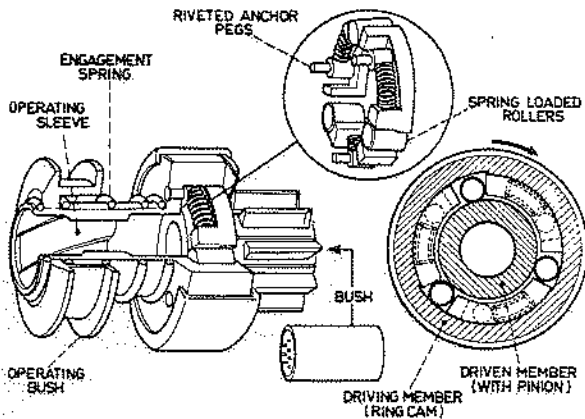

Fig. 3 - Starter Drive Assembly
(8) In the event of the drive remaining in mesh with the flywheel after the engine has run up to speed, the starting motor armature is protected from over-speeding by the roller clutch assembly (Fig. 3). This clutch allows torque to be transmitted from the starting motor to the engine but not in the reverse direction which is free-running.